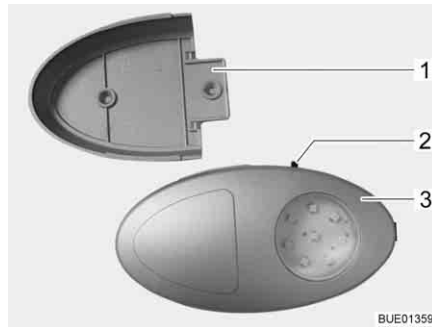

Fig. 57 Wardrobe light
- ▷ The wardrobe light can be removed from its holder (Fig. 57,1) and used as a torch.
The On/Off switch (Fig. 57,2) is located directly on the wardrobe light (Fig. 57,3).